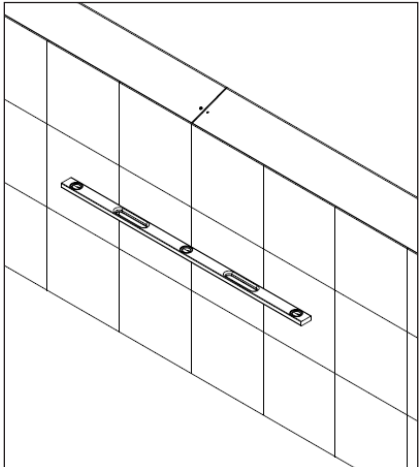

Figure 7: Ensure Flush Display Faces
- 8. Place a 4' level at both ends and the middle of the display seam (when possible) to ensure the display faces are flush, plumb, and flat to adjacent sections. Refer to **Figure 7**.